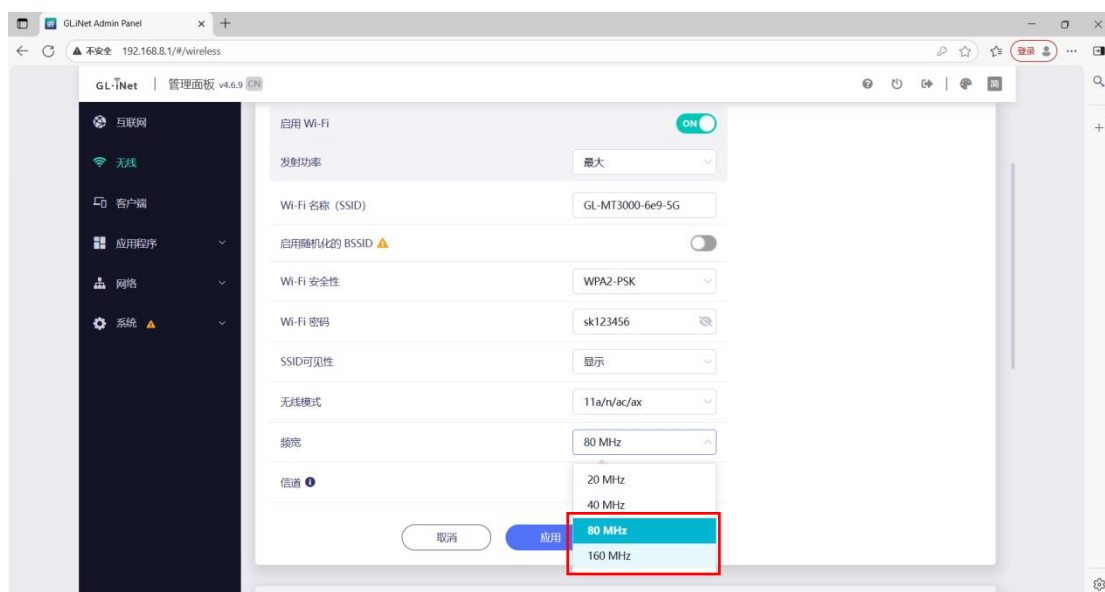

Figure 4-12 Adjust Bandwidth in Router Admin Page
1. **Adjust Bandwidth:** Log in to the router admin page, navigate to Wireless > 5GHz WiFi and locate the "Bandwidth" option. Change the setting from 80MHz to 160MHz, as shown in Figure 4-12.
2. **Adjust Transmit Power (TX power):** Locate the "TX power" option on the same page, and change the setting from "Maximum" to "Medium" or "Low", as shown in Figure 4-12.